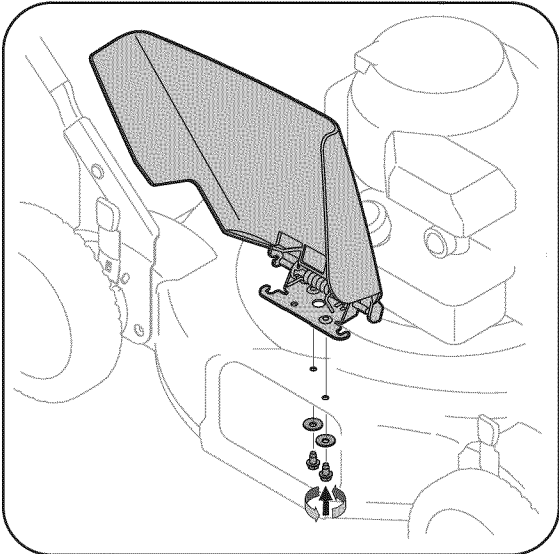

Figure 3-9: Install the chute deflector.
2. Secure with self-tapping screws and bell washers from underside of the deck and up through the chute deflector. See Figure 3-9.